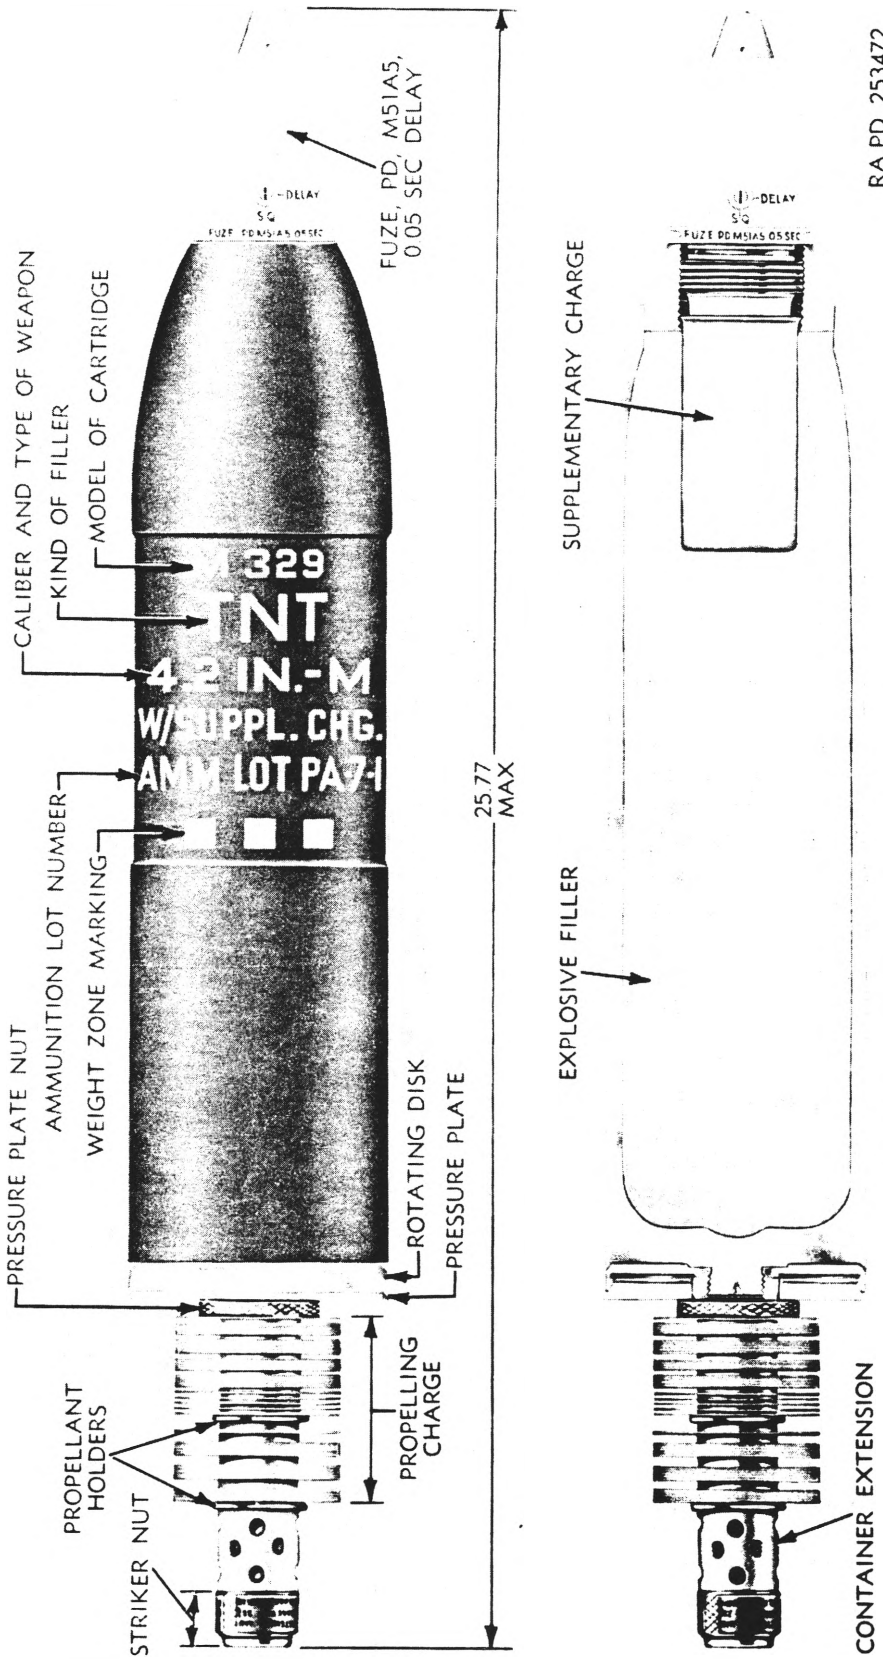

Figure 17. Cartridge, 4.2-inch: HE, M329, w/suppl chg and fuze, PD, M51A5, 0.05-sec. delay.
*a. General.* This cartridge (fig. 17) is intended for fragmentation and mining effect. The projectile contains a deep fuze cavity and supplementary charge of TNT, thereby either impact or proximity fuzes may be assembled to it. This cartridge can be distinguished from the cartridges M2 series and M3 series by the extended length (cartridge container extension) of its cartridge container and its 41-increment propelling charge M36. The cartridge M329 is similar to the cartridges M3 series except for the tail assembly. The principal parts of the tail assembly for this cartridge are the cartridge container, cartridge container extension, pressure plate, pressure plate nut, rotating disk, propellant holders, and striker nut assembly. The cartridge container extension is required in order to provide space for the propellant increments of the full propelling charge M36. The projectile for this cartridge has a steel body with sil-